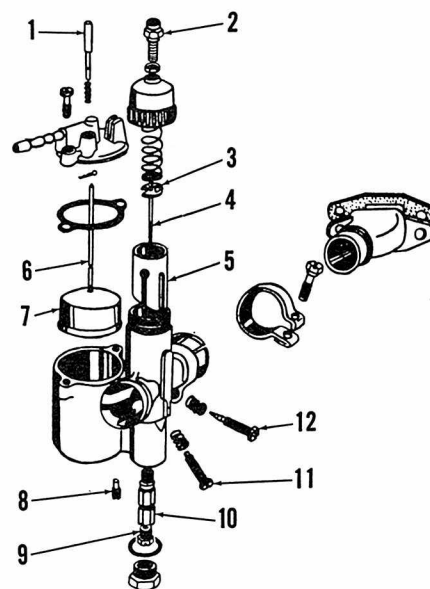
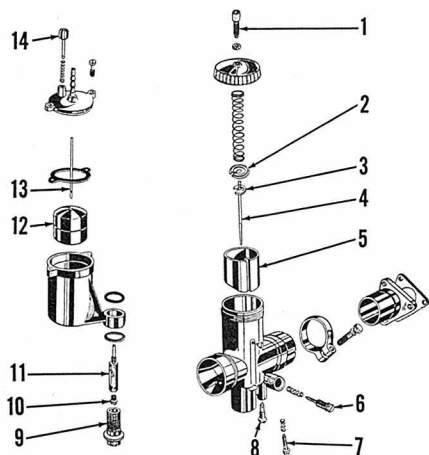

Fig. A3-1—Exploded view of Fisher-Amal carburetor used on 175cc models.
Fig. A3-2—Exploded view of Puch carburetor used on 250cc models.
**CARBURETOR.** Fisher-Amal 24 E 1 A carburetor (Fig. A3-1) is used on 175cc models. Puch P32/1 carburetor (Fig. A3-2) is used on 250cc models. Refer to the following for carburetor normal settings.
Refer to Fig. A3-1
Refer to Fig. A3-2
On all models, turning the idle mixture needle (12—Fig. A3-1 or 6—A3-2) counter-clockwise leans the mixture.